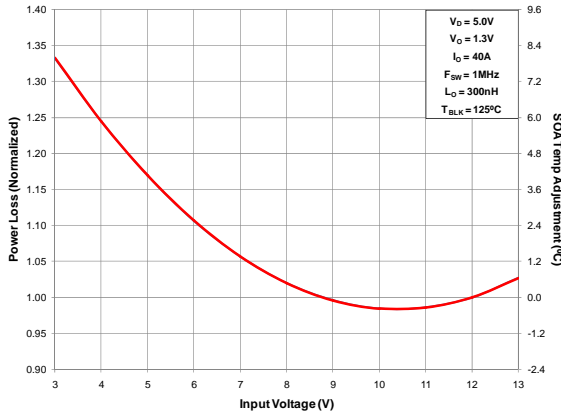

Figure 3 Normalized Power Loss vs. Input Voltage
- (Figure 3) Normalized power loss for input voltage \approx 0.98
- (Figure 3) SOA temperature adjustment for input voltage $\approx -0.5^\circ\text{C}$